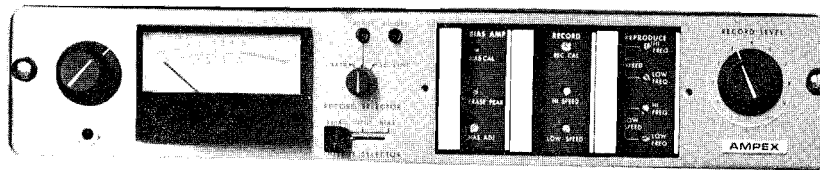

FIGURE 1-4
1.3 RECORD/REPRODUCE ELECTRONIC UNIT (FIGURE 1-4)